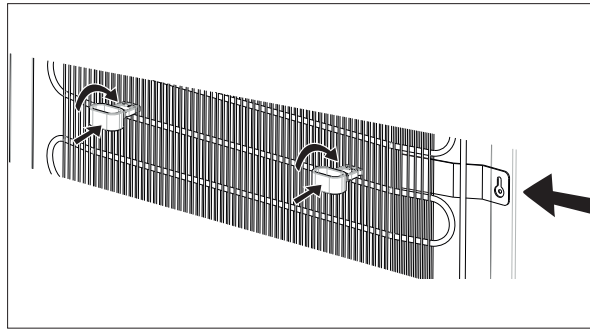

Fig. 21
- ▶ Fit the two spacers (17) on the cooling ribs at the back of the appliance at the height of the upper fixing plate (see arrow on the right in Fig. 21).
- ▶ Insert each spacer (17) in the vertical position up to the recess marked **T** between two cooling ribs and turn it 90° to the horizontal position as shown in Fig. 21. This prevents the condenser from coming into direct contact with the wall.
- ▶ Ensure that the appliance is level, compensate for any unevenness in the floor by screwing in the appliance feet (6).